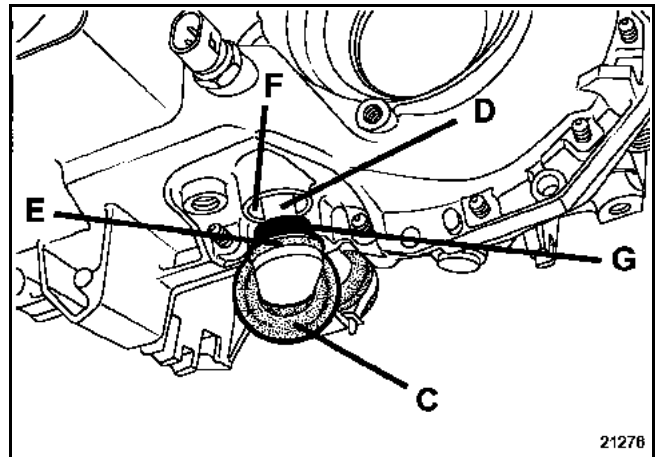

Fig. 2
- Slide the dust seal gaiter (C) along the selector shaft (D) (**Fig. 2**).
- Remove the selector shaft seal (E) from its housing (F) and allow the oil to flow along the selector shaft (D) (**Fig. 2**) for 2 hours.
- Degrease the selector shaft seal (E), the selector shaft (D) and the seal housing (F) (**Fig. 2**) with a cleaner (for example **Part no.: 77 11 171 911**).
- Place a strip of SCELBOC around the perimeter of the seal (E) on the zone (G) (**Fig. 2**).